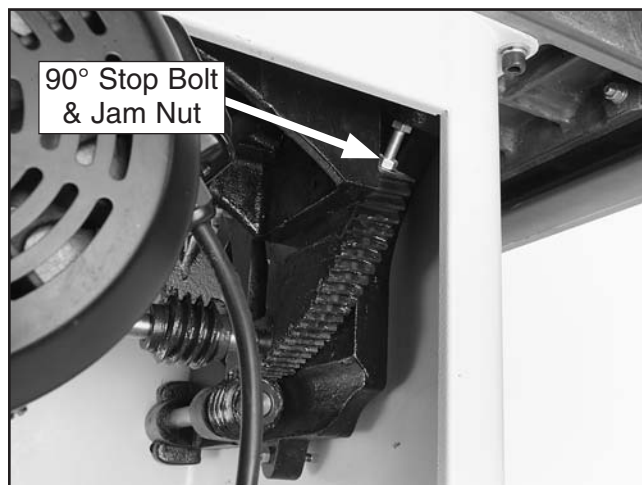

Figure 108. 90° stop bolt and jam nut.
5. Open the motor access cover, loosen the jam nut shown in **Figures 108** and **109**, adjust the stop bolt up or down according to how far off the blade was from 90°, then repeat **Steps 2-3** until the blade stops at 90°.